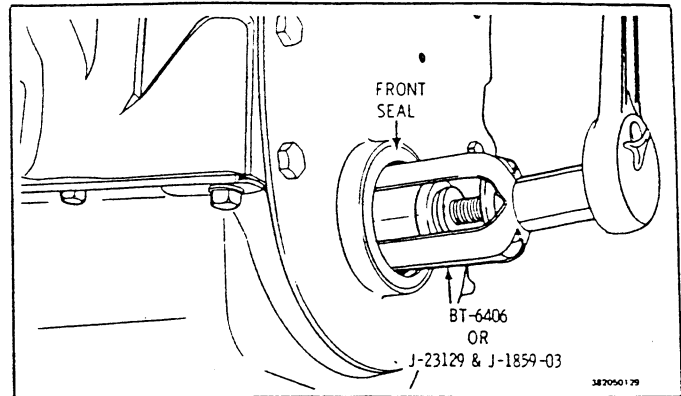

Fig. 45 Front Cover Oil Seal Removal
2. Seal, with tool BT-6406 or J-1859-03 and J-23129 (Fig. 45).